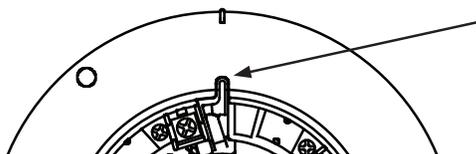

Figure 3: Removing Detector Head from Base
2. To remove the detector from the base once the locking feature has been activated, insert a small screwdriver into the slot on the base to push the plastic tab while simultaneously turning the detector head counter-clockwise (refer to Figure 3).